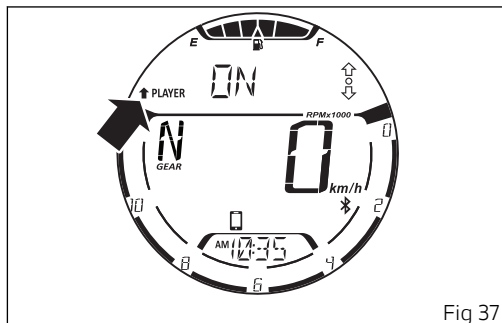

Fig 37
Once activated (ON), the "Music player management (PLAYER)" function appears inside the menu with the black arrow facing upwards followed by the indication "PLAYER" and the message "ON" (Fig 37).